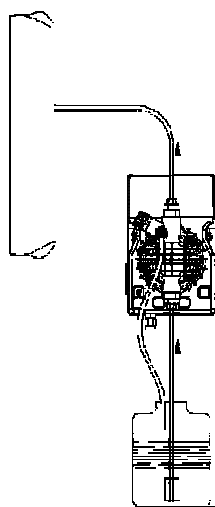
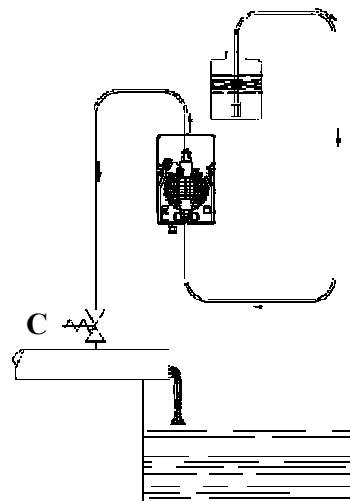

Fig. 5
Fig. 6
- c.- Locate the pump as shown in fig. 5 bearing in mind that it may be installed either below or above the level of the liquid to be dosed, though the level difference should not exceed 2 meters. When the process plant in which the pump is installed is operating at atmospheric pressure (no back pressure) and the chemical tank is situated above the plant (Fig. 6), the condition of the injection valve should be checked at regular intervals, because excessive wear and tear could cause additive to drip into the plant even when the pump is shut down. If the problem persists, install a properly calibrated counter-pressure valve (C) between injection point and the valve. In the case of liquids that generate aggressive vapours, do not install the pump above the storage tank unless the latter is hermetically sealed.